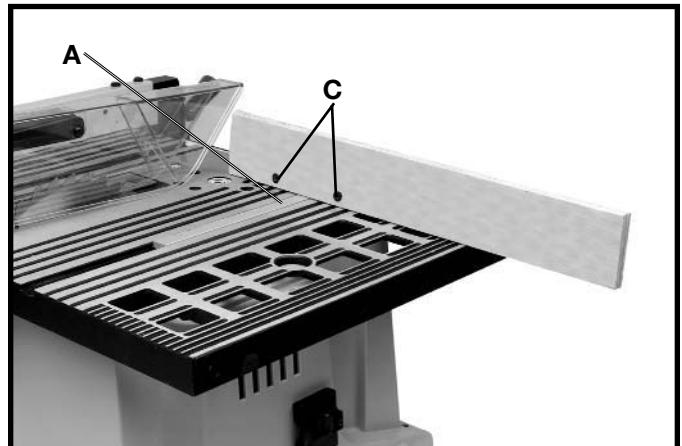

Fig. 43A
For added safety and convenience, the miter gage (A) Fig. 43A can be fitted with an auxiliary wood-facing (B), that should be at least 1 inch higher than the maximum depth of cut, and should extend out 12 inches or more to one side or the other depending on which miter gage slot is being used. This auxiliary wood-facing can be fastened to the front of the miter gage by using two screws (C) Fig. 43A through the holes provided in the front of the miter gage body and into the wood-facing.